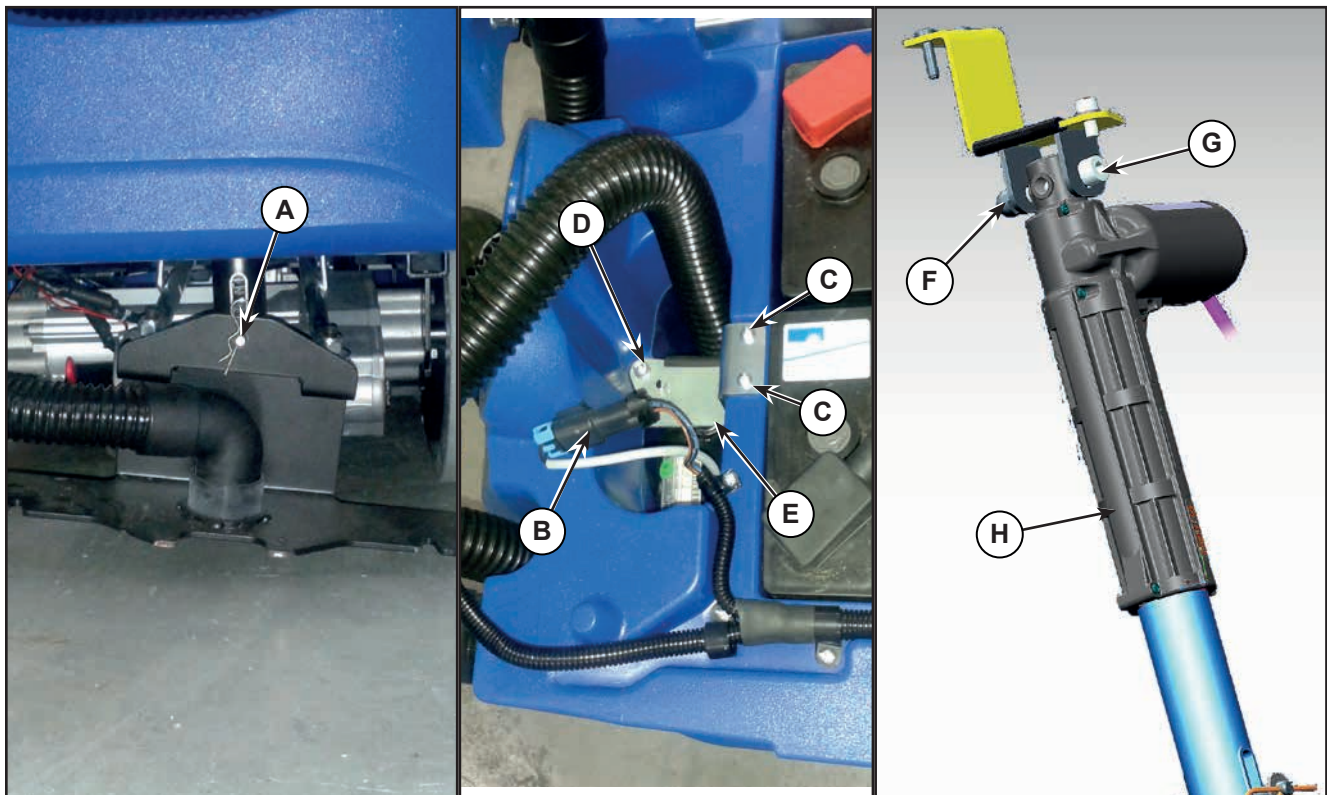

Figure 5:
4. Disassemble the retaining spring (A, Figure 5), retrieve screws and washers.
5. Disconnect the squeegee power supply connection (B).
6. Remove the two screws (C) and the screw (D), then lift the actuator plate (E).
7. Remove the nut (F) and retrieve the screw (G).
8. Replace the actuator (H).